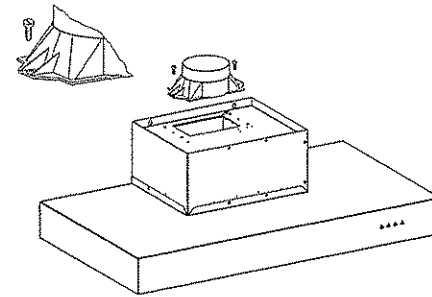

Fig.1
If the hood is to be installed as a SUCTION hood, connect the plastic conical outlet piece (H) supplied with the hood (125 mm diameter) to an exhaust pipe connected directly to the outside. (Fig. 1).